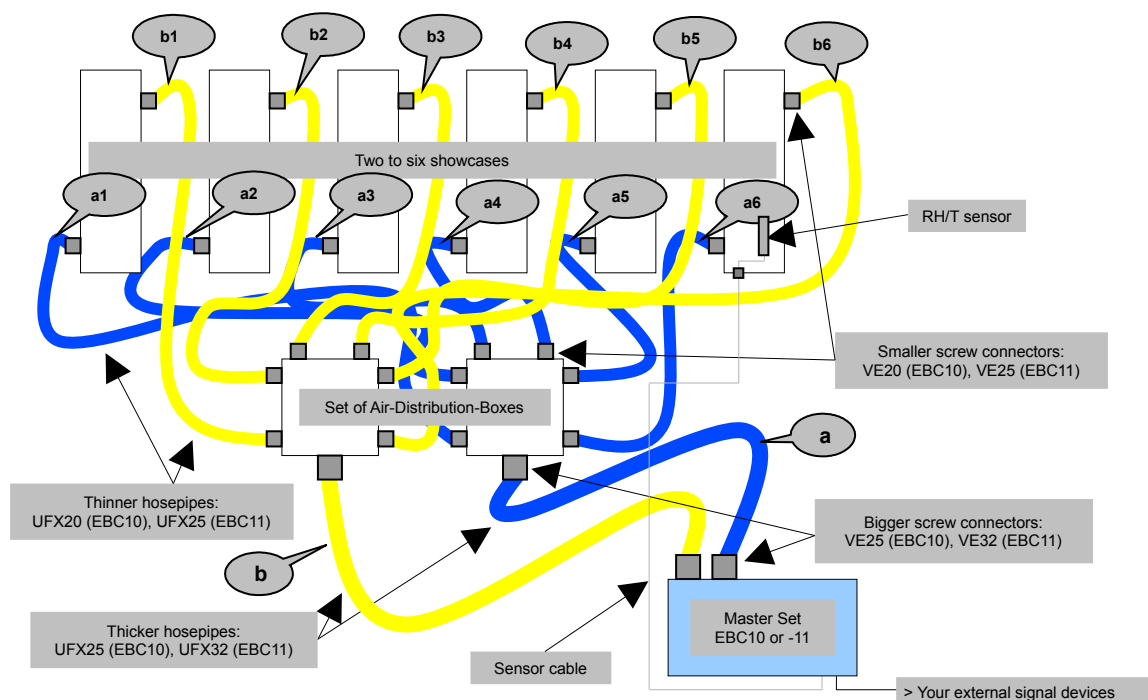

Fig. 1
Screw connections have already been affixed to the miniClima device and to the air-distribution-boxes. You need to bring on the ones on the showcase walls. At first you need to define the ideal positions for these air in-/outlets on the showcase walls so as to enable an equal distribution of the conditioned air in all the showcases that shall be connected to the EBC (⚡ **NOTE:** The positions shown in Fig. 1 do not represent a
- ✓ Try to keep equal lengths for the hosepipes interconnecting the LVBs and the showcases (supply hosepipes on the one hand, return hosepipes on the other) (cp. Fig. 1):
Unscrew the union nuts of the screw connections on the cases as well as those of the smaller screw connections on the air-distribution-boxes. Take out the clamping rings. Dispose of the protective coverings on the screw connection, if any. Establish the hose connections between the cases and the boxes using hose type UFX20 on LVB25 or UFX25 on LVB32. See Fig. 1 for help.
Unscrew the union nuts of the two already installed screw connections on the device as well as those of the bigger screw connections on the air-distribution-boxes. Take out the clamping rings. Dispose of the protective coverings on the screw connection, if any. Establish the hose connection between the boxes and the device using hose type UFX25 on LVB25/EBC10 or UFX32 on LVB32/EBC11. See Fig. 1 for help.